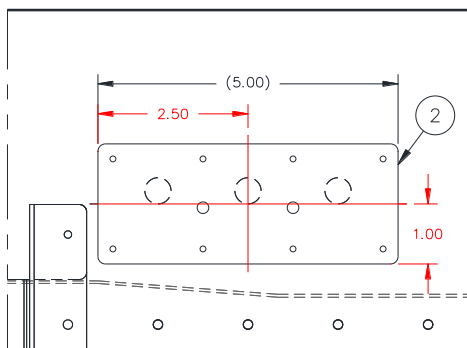

Figure 4: View looking aft at the forward face of the firewall. All dimensions are in inches.
8. Position Item 2, as per Figure 4, using the lines marked in Step 7 as a reference. On the firewall, mark the eight 0.098" diameter holes and two 0.193" diameter holes that exist in Item 2.